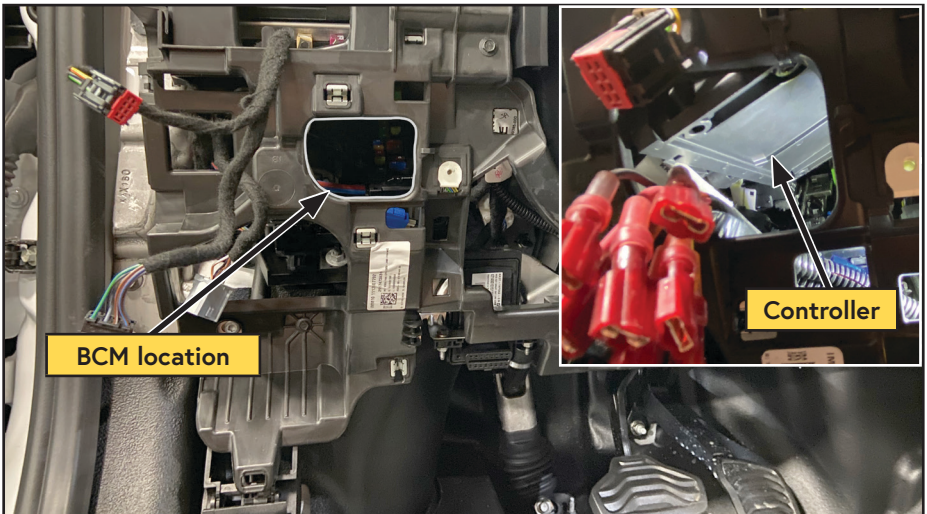

Figure 56 — Mount Controller
- Using a cable tie, mount the Controller in the cavity of the BCM (Figure 56).